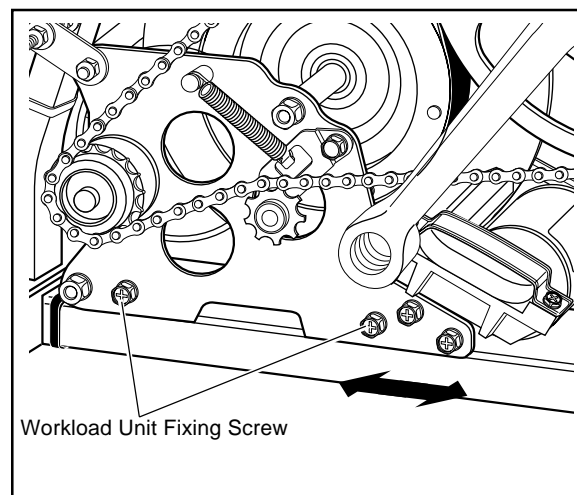
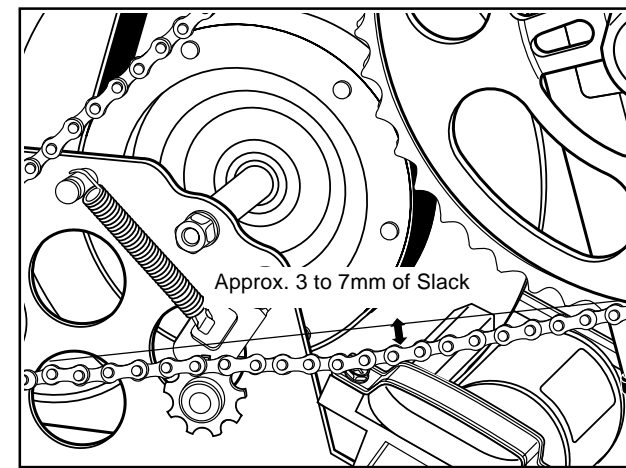

Fig. 6
Fig. 7
5. Adjust the tension of chain. Loosen the workload fixing screw [two screws at each right and left side (Fig. 6)], and adjust the tension while sliding the workload unit. The tension of chain should be adjusted as illustrated in Fig. 7.
6. Adjust the clearance between the magnet mounted on the large gear and the CDC sensor, and also adjust the positions of the indication lines, by referring to Item (5) Section ES-5 "Replacing the CDC Sensor."